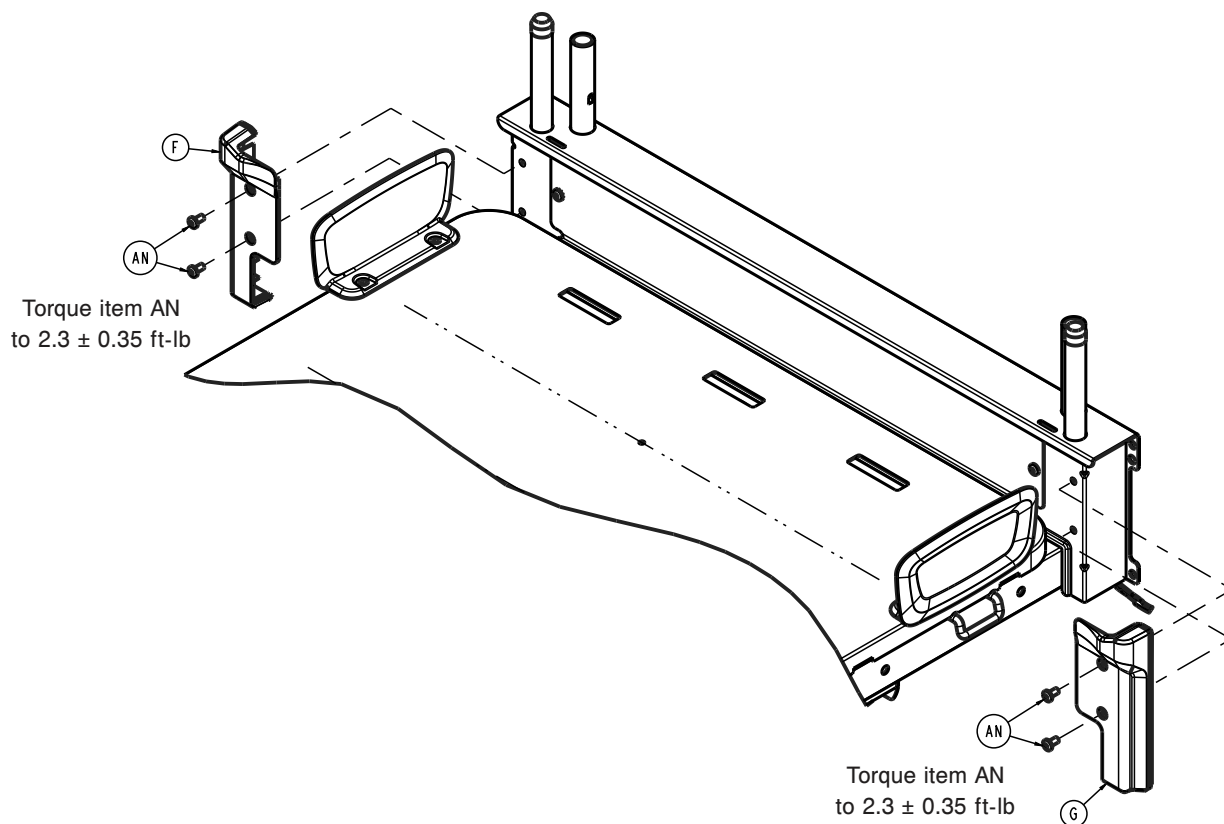

Figure 17 – Removing the cover
- Using a T30 Torx driver, remove the two screws (AN) that secure the front head cover (F, G) (Figure 17). Remove and discard the cover.
4. Using a T30 Torx driver, remove the two screws (AN) that secure the front head cover (F, G) (Figure 17). Remove and save the screws and cover.